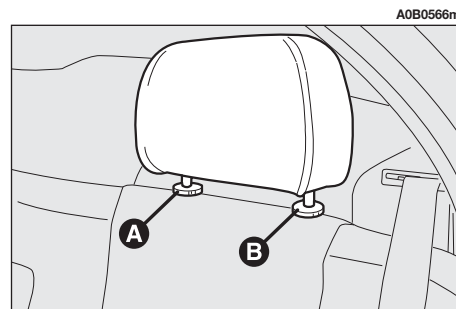

fig. 31
- press both buttons (**A** and **B-fig. 31**) and remove the headrests.